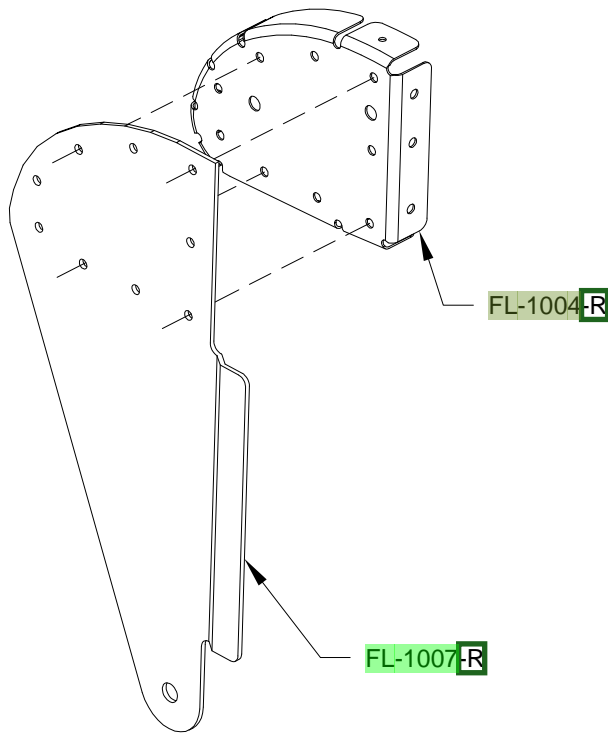

FIGURE 2: RIGHT HINGE PAIR RIB SUBASSEMBLY
Step 2: Cleco together two right hinge pair rib subassemblies which are made up of an FL-1004-R Nose Rib and an FL-1007-R Hinge Bracket as shown in Figure 2.